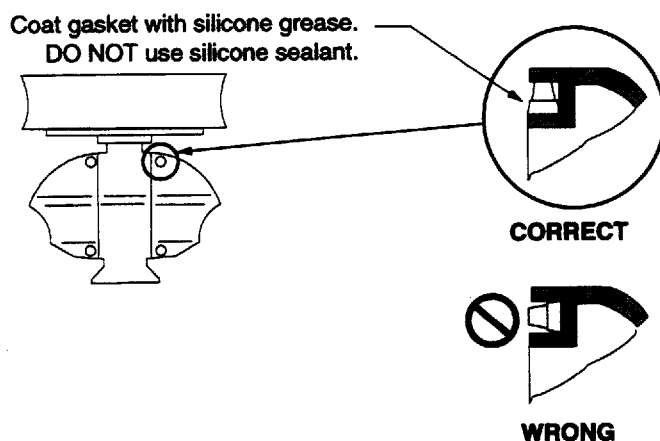

Figure 12 Seating of waterproofing gasket
- 15) Confirm that the waterproofing gasket is seated as shown in Figure 12.